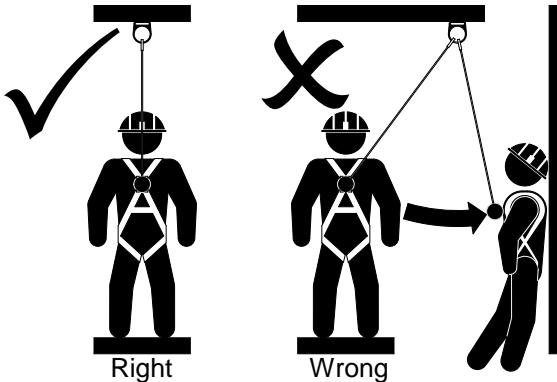

Figure 8
Swing falls occur when the anchorage point is not directly above the point where a fall occurs (see Figure 8). The force of striking an object in a swing fall may cause serious injury. In a swing fall, the total vertical fall distance will be greater than if the user had fallen directly below the anchorage point, thus increasing fall clearance required to safely arrest the user. Use Figures 7A through 7C to determine the fall clearance for your application. Minimize swing falls by working as directly below the anchorage point as possible. Never permit a swing fall if injury could occur.
2. Swing pendulum fall (see Figure 8).